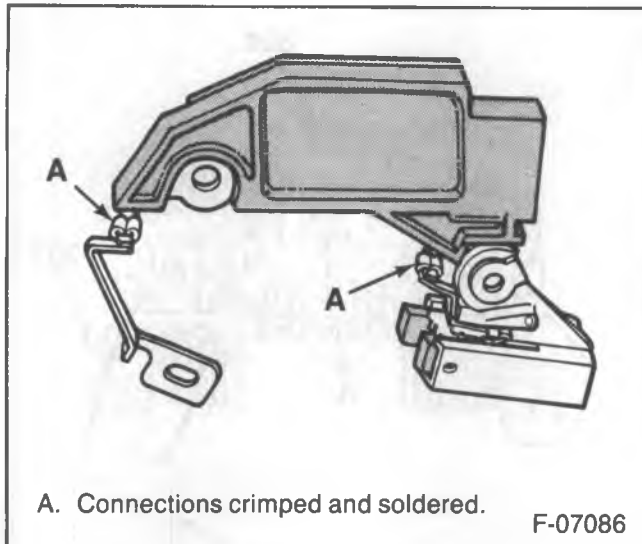

Figure 9—Regulator Connections
- 12. If the regulator, brush assembly or connector needs replacing, it will have to be unsoldered from the other two components. Use as little heat as possible to protect the regulator (figure 9).